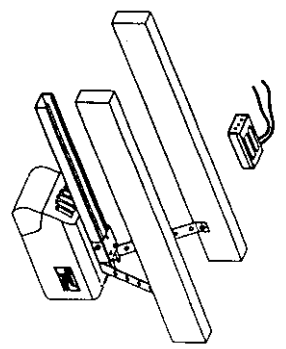

Figure 2-1
1. POSITION the receiver on the ceiling above the opener, 1-2 feet in front of the mounting hardware. (Figure 2-1)